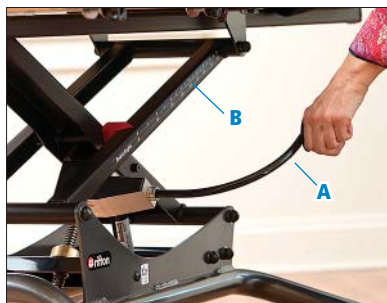

Figure 11a
The hand crank (A) controls transfer height adjustment and the tilt angle of the mainboard. By turning the crank, the board in its horizontal position will move vertically from 21" to 30" (53cm to 76cm) and then begin to tilt. Continue to turn the hand crank until desired angle is reached (see Figure 11a).